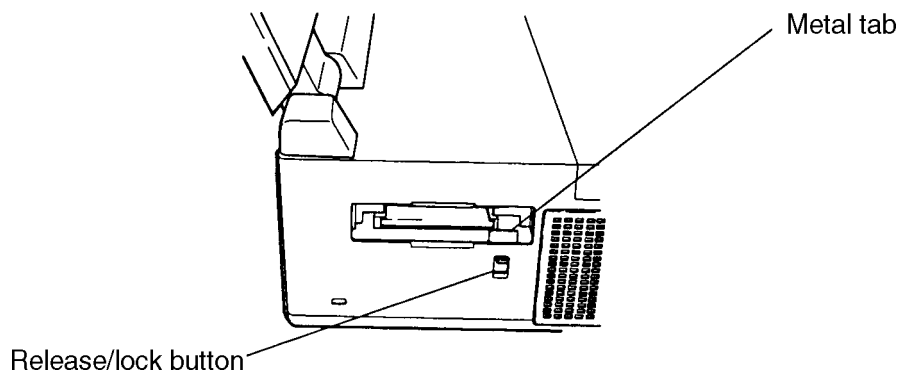

Figure 4-2 The PCMCIA Slot
4. Slide the **release/lock button** downward to recess the **metal tab** (Figure 4-2).
2. Make sure the **metal tab** is fully recessed by sliding the **release/lock button** all the way down (Figure 4-2).
4. To prevent accidental ejection of the PCMCIA card, slide the **release/lock button** upward to expose the **metal tab** (Figure 4-2).